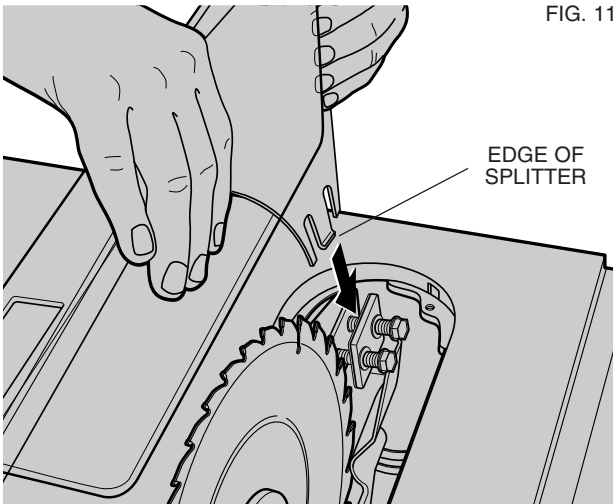

FIG. 11
3. Insert the blade guard as shown in Figure 11, ensuring the bolts fit into the slots on the blade guard. The edge of the splitter should protrude below and hook under the shims. Tighten the bolts. Make sure the splitter is cen-